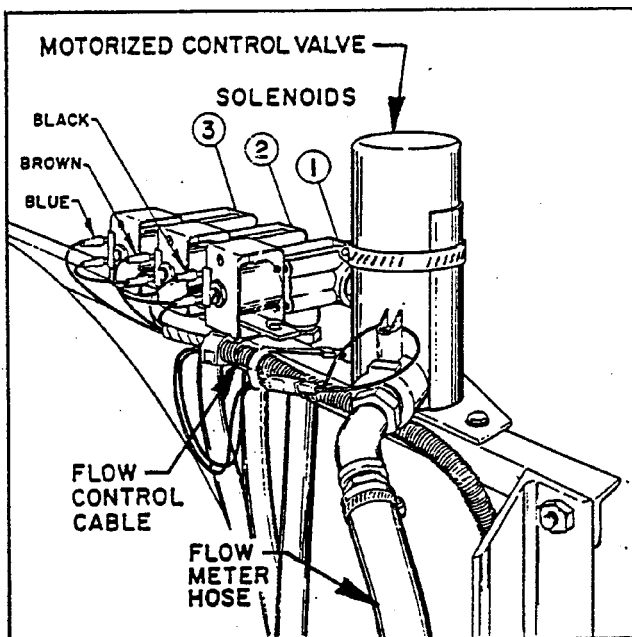

FIG. 9
CONTROL VALVE ASSEMBLY: Apply thread sealer and install the fittings used to connect the Motorized Control Valve to the Solenoids. Install the 1" hose barb into the Control Valve and the 3/4" barbed elbow into the Solenoid. See FIG. 9.
- Slide the Solenoid Mounting Strap into position and mount the complete Control Valve and Solenoid Assembly to the Cross Support as shown in FIG. 9. Use four 5/16" x 1" hex hd cap screws with washers below the screw head, the Strap and the Cross Support.